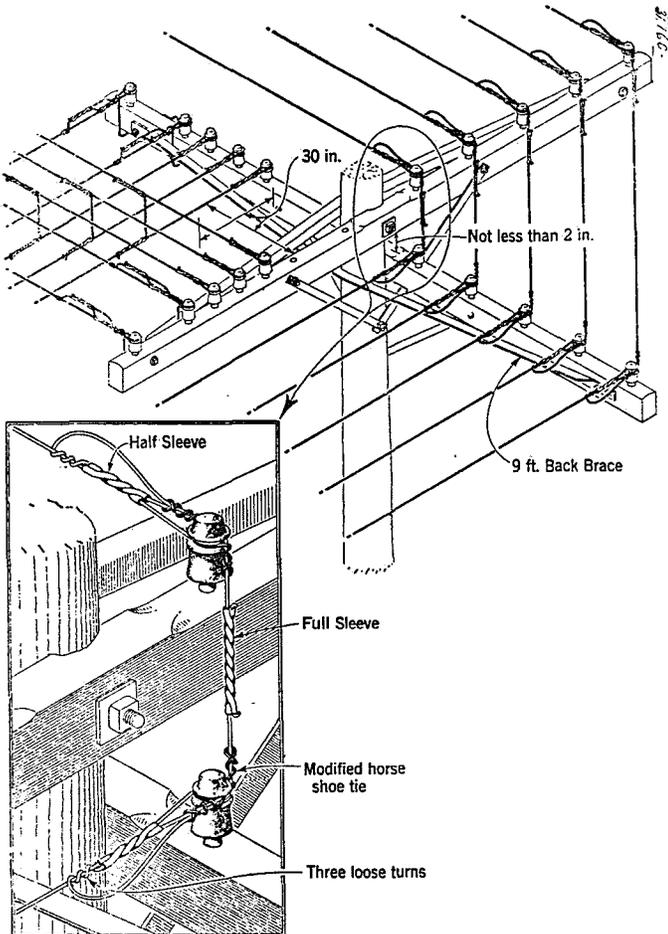

Fig. 4
2.04 Where buck arm construction is employed, line wires extending between crossarms shall be secured to the insulators on which the wires are dead-ended by a modified horse shoe tie. See Fig. 4.